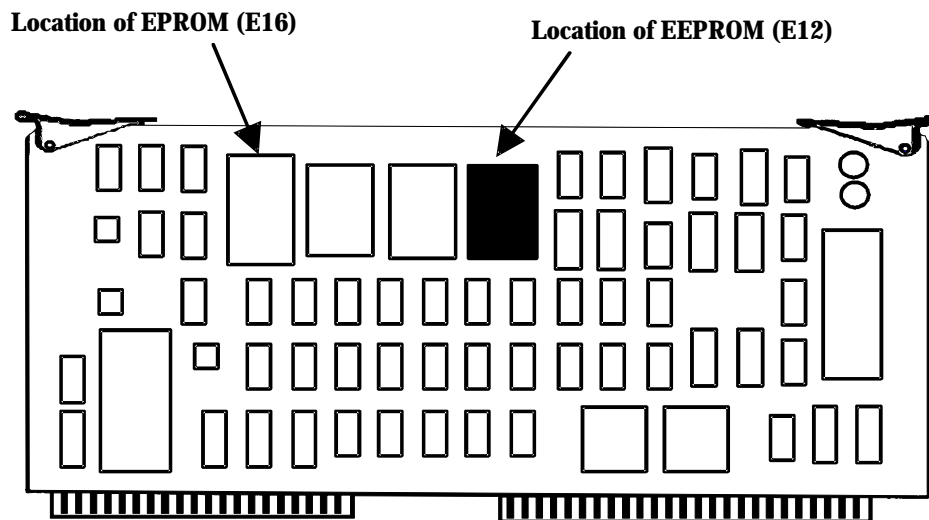

Figure 1
6. Remove the EEPROM from position E12 and insert updated EPROM version 5.2 (refer to figure 1).
7. Remove the EPROM from position E16 and insert updated EPROM version 15.3 (refer to figure 1).
3. Remove the EEPROM from position E12 and insert updated EPROM version 5.2 (refer to figure 1).
4. Remove the EPROM from position E16 and insert updated EPROM version 15.3 (refer to figure 1).